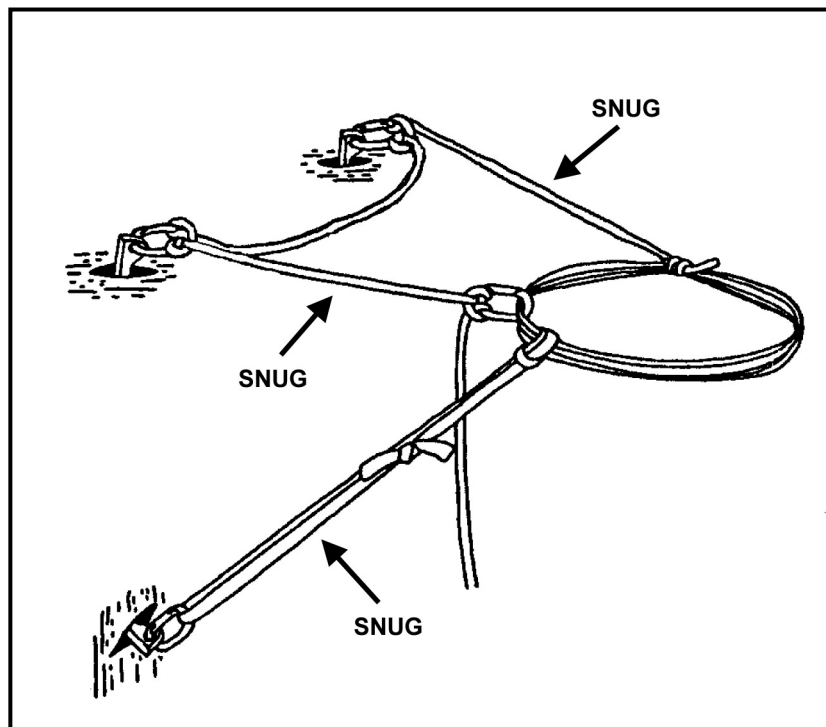

Figure 6-27. Anchoring a belay.
(1) Each anchor must be placed in line with the direction of pull it is intended to support.
(2) Each anchor attachment must be rigged "independently" so a failure of one will not shock load remaining placements or cause the belayer to be pulled out of position.
(3) The attachment between the anchor and the belayer must be snug to support the stance. Both belayer's stance and belay anchors should absorb the force of a fall.
(4) It is best for the anchors to be placed relatively close to the belayer with short attachments. If the climber has to be tied-off in an emergency, say after a severe fall, the belayer can attach a Prusik sling to the climbing rope, reach back, and connect the sling to one of the anchors. The load can be placed on the Prusik and the belayer can come out of the system to render help.
(5) The belayer can use either a portion of the climbing rope or slings of the appropriate length to connect himself to the anchors. It's best to use the climbing rope whenever possible, saving the slings for the climb. The rope is attached using either figure eight loops or clove hitches. Clove hitches have the advantage of being easily adjusted. If the belayer has to change his stance at some point, he can reach back with the guide hand and adjust the length of the attachment through the clove hitch as needed.
(6) The anchor attachments should also help prevent the force of a fall from "rotating" the belayer out of position. To accomplish this, the climbing rope must pass around the "guide-hand side" of the body to the anchors. Sling attachments are connected to the belayer's seat harness (or bowline-on-a-coil) on the guide-hand side.
(7) Arrangement of rope and sling attachments may vary according to the number and location of placements. Follow the guidelines set forth and remember the key points for belay anchors; "in line", "independent", and "snug". Figure 6-27 shows an example of a common arrangement, attaching the rope to the two "downward" anchors and a sling to the "upward" anchor. Note how the rope is connected from one of the anchors back to the belayer. This is not mandatory, but often helps "line-up" the second attachment.